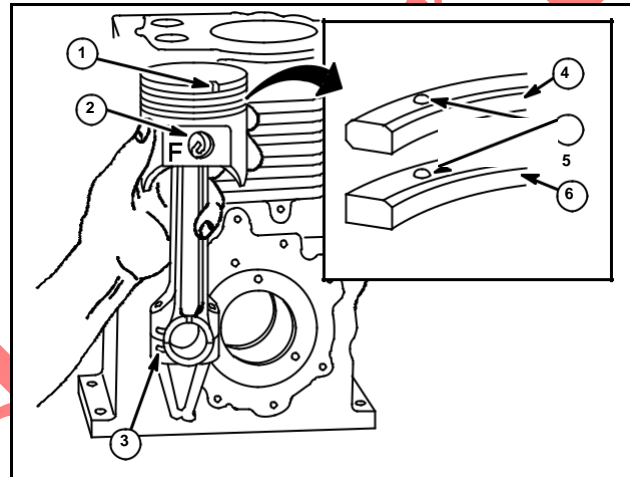

Fig. 8
2. Model Series 300000, 320000 have a notch (1) and letter "F" on the piston. Install pin lock (2) in pin bore groove opposite the notch and letter "F." Place rod in piston with assembly marks (3) on same side as notch and letter "F". Install pin through piston and rod until pin seats on lock. Install second lock, Fig. 8.